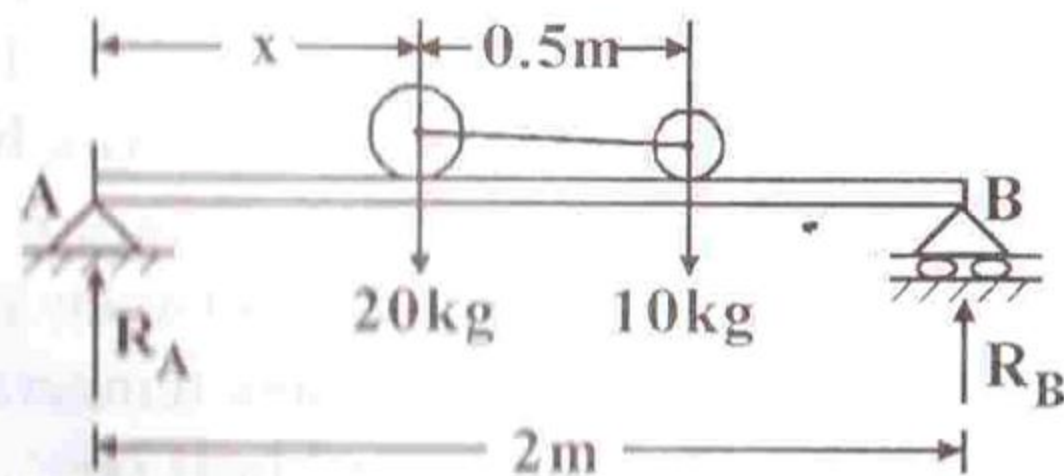

Fig. 1
- Two rollers of mass 20 kg and 10 kg rest on a horizontal beam as shown in **fig. 1** with a massless wire fixing the two centers. Determine the distance  $x$  of the load 20 kg, from the support A, if the reaction  $R_A$  is twice of the support reaction  $R_B$ . The length of the beam is 2 m and the length of the connecting wire is 0.5 m. Neglect weight of beam. Assume the rollers to be point masses neglecting its dimensions.